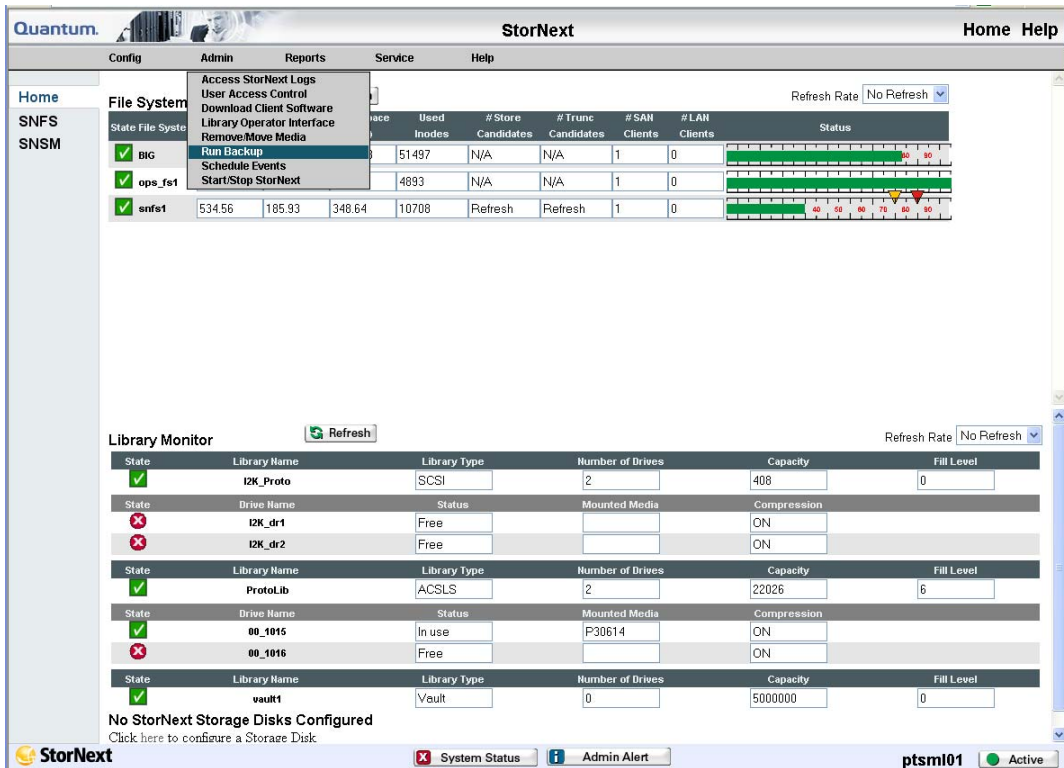

Figure 14.6-1. StorNext Admin Pull- Down Screen
- The options for the Admin drop-down menu (Figure 14.6-1) enable you to control day-to-day operations of StorNext. The Admin menu contains these options: